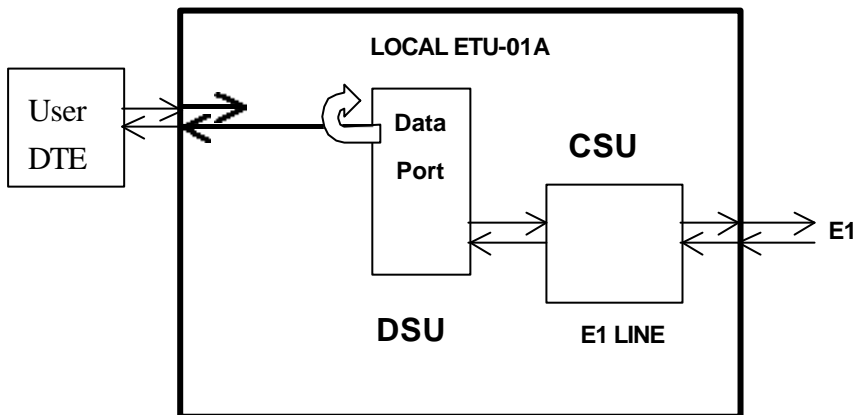

Figure 5-7. Data Port local digital loop back
Data Port local digital loop back is performed by connecting the local data channel receive data (RD) to the data channel transmit input (TD), as shown in Figure 5-7. The test signal is then provided by the remote user DTE.